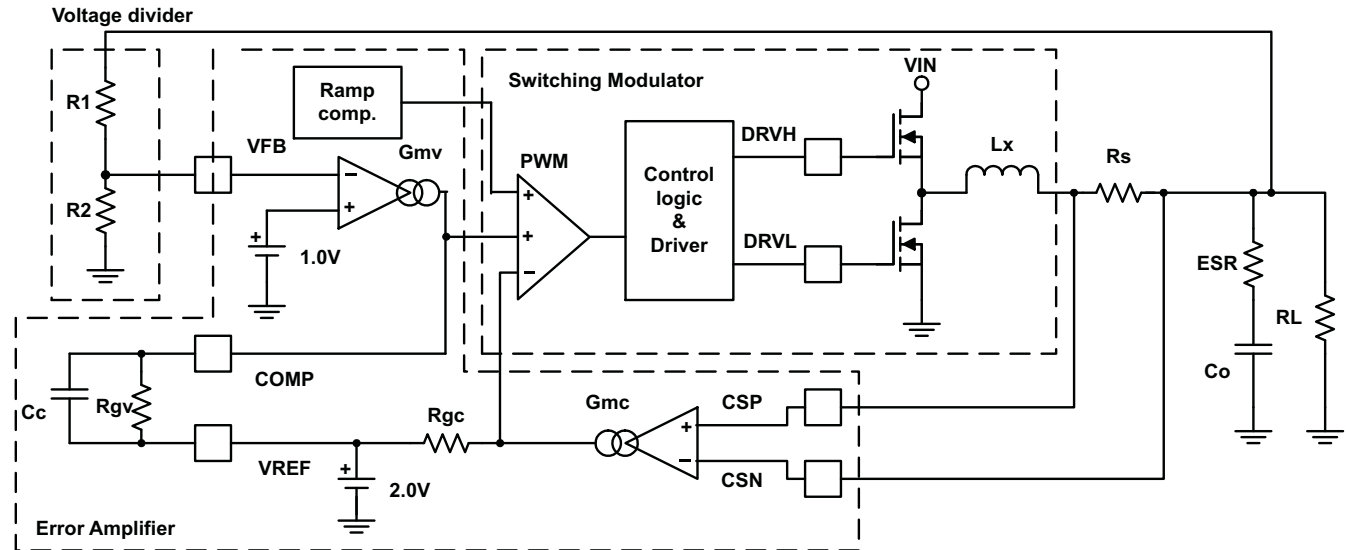
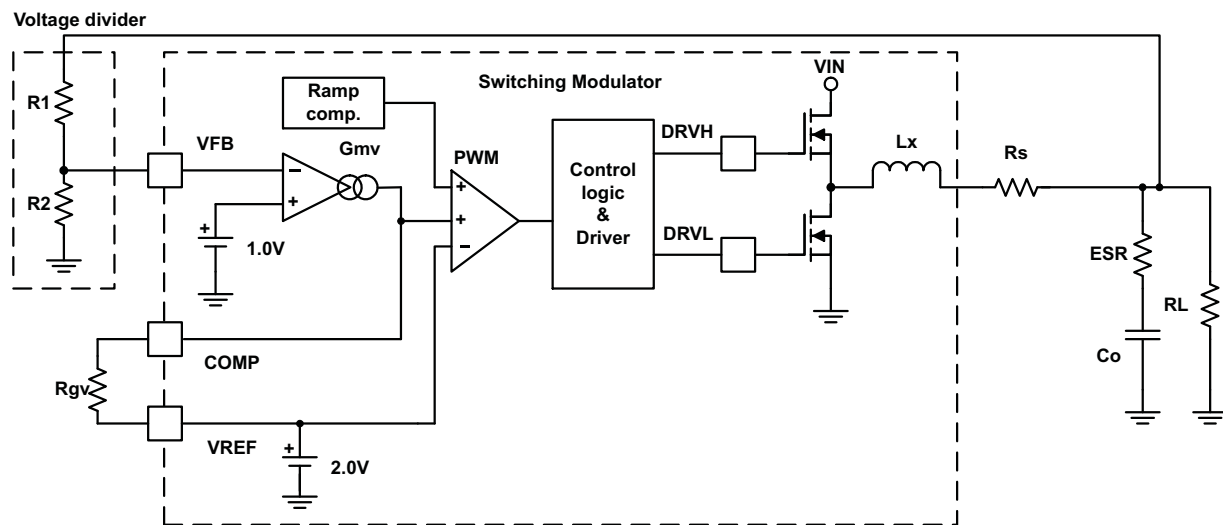

Figure 44. Simplified Current Mode Functional Blocks
Figure 45. Simplified D-CAP Mode Functional Blocks
A buck converter using the TPS51220A-Q1 consists of linear circuits and a switching modulator. Figure 44 and Figure 45 show basic scheme.
1. **Determine output voltage dividing resistors.** (R1 and R2: shown in Figure 44) using Equation 7.